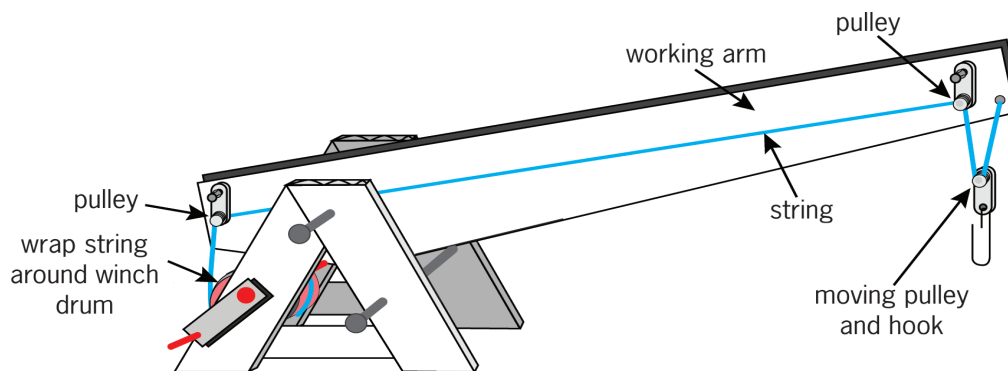

Figure 8: A lifting system that you can make
Look at the model of the lifting system shown in Figure 8. You will have a chance to make a lifting system similar to this one in the activities that follow. But first, answer the questions below.
1. How does the pulley system in Figure 8 help to lift things?